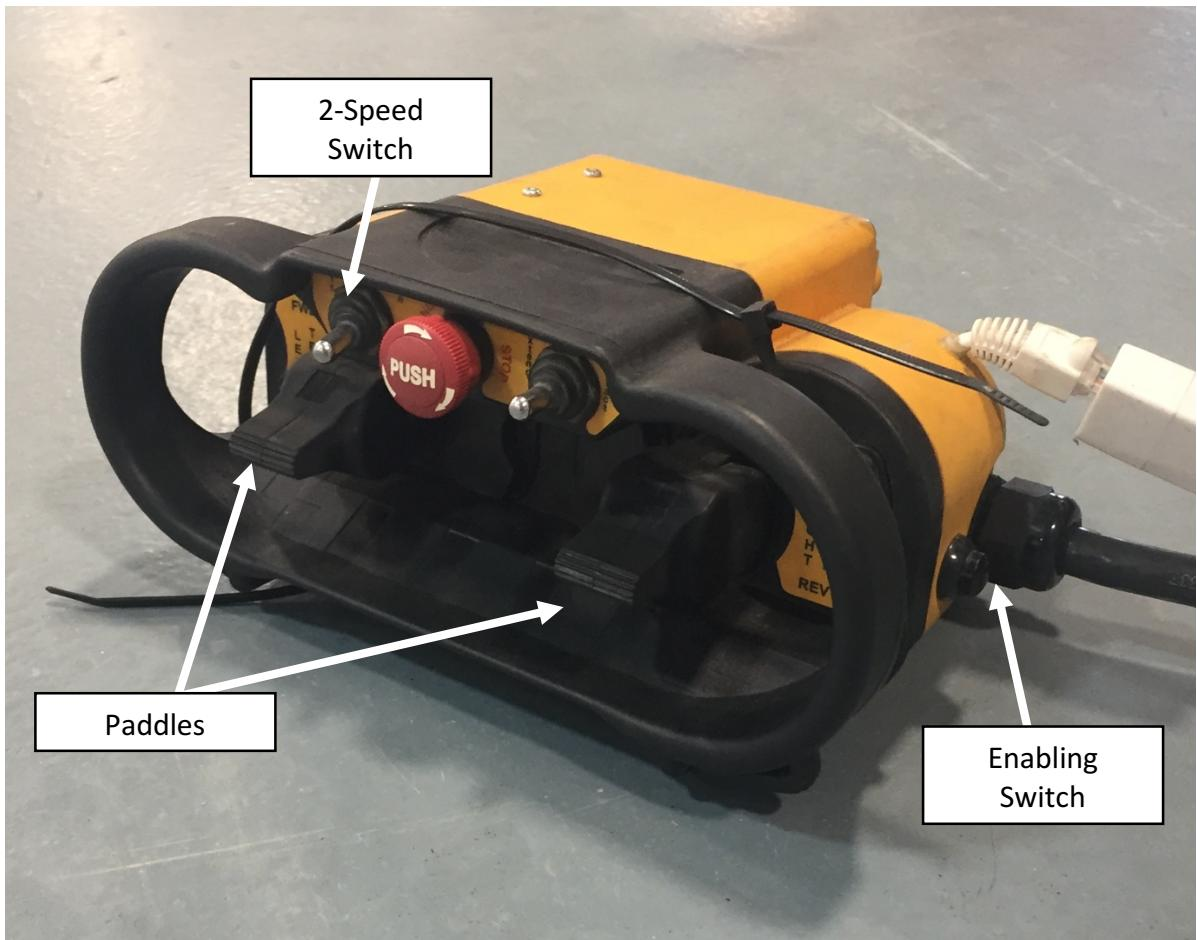

Figure 4: Track Control Pendant, AT40GW
- a) Track control pendant E-STOP is released (Fig. 4)
- b) 2-SPEED MODE switch is OFF for diesel drive, or ON for electric drive (Fig. 4). **NOTE:** It is important when operating the vehicle in diesel mode that you are aware of whether you are operating in 2-speed mode or not. In 2-speed mode, the vehicle moves much faster, and is harder to control. This is not the case in electric mode, and the vehicle will not move unless it is in 2-speed mode.
- 6) Depress enabling switch on side of pendant (Fig. 4). You should hear a distinct change in sound coming from the hydraulic drivetrain.
- 7) Use the paddles to control the velocity of the right and left tracks (Fig. 4). **NOTE:** Be extremely careful when starting to move the vehicle. The paddle control is nominally proportional, but it is not terribly smooth, and particularly when turning, the vehicle can move its endpoint extraordinarily fast.